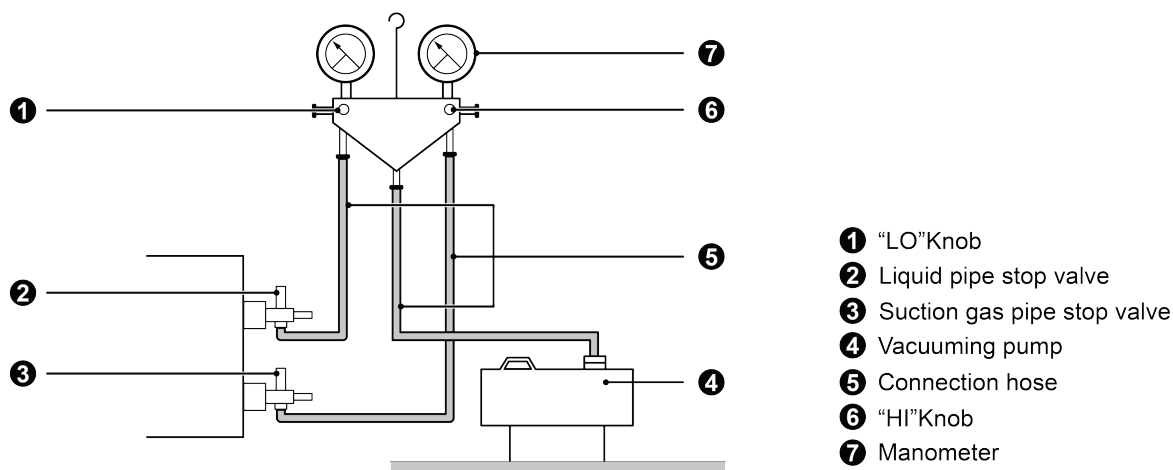

Fig.4.4.1
- (1) Confirm outdoor liquid and gas valves are closed. Air purring from the nozzle located on liquid and gas valves by vacuum pump See Fig.4.4.1.